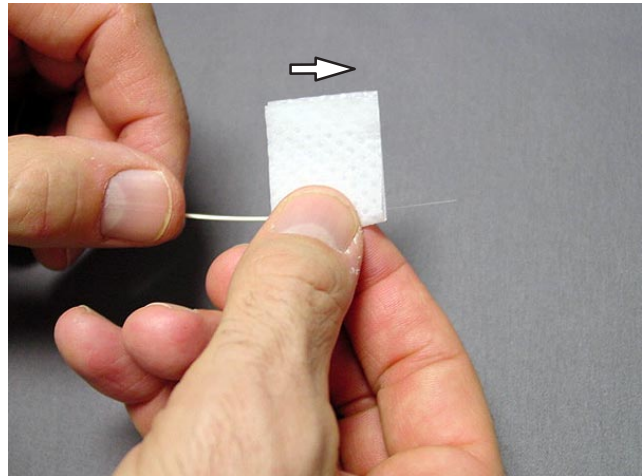

Figure 44
6. Clean the fiber on the second end (refer to Paragraph 5.2.A.8). See Figure 44.